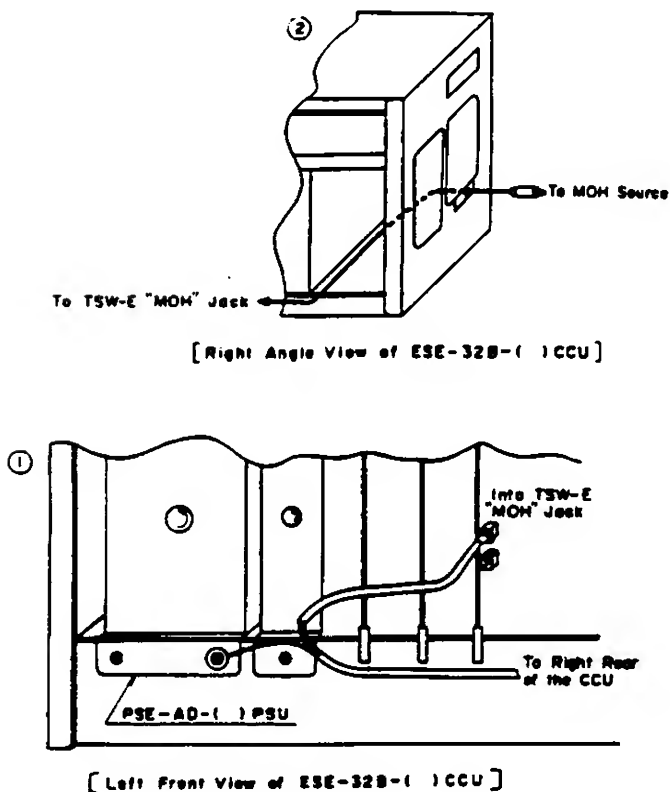

Figure 270-2 MOH Cable Shield Ground (Views of the ESE-32B-1 CCU)
- I. The ring-tongue type connector installed in step E must be connected to the screw holding the PSE-AD-1 PSU. Refer to Figure 270-2 showing a suggested connection.